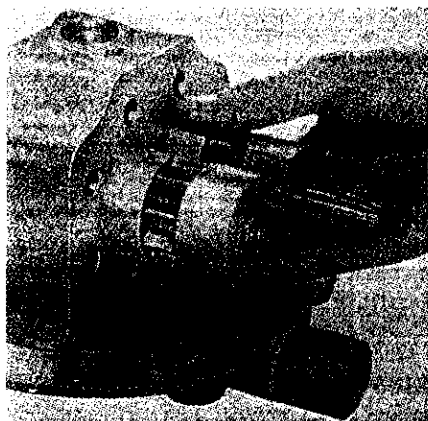

Fig. 421—Removing pump gears and bearings as an assembly.
(small) pump body (18) from rear cover plate (7) and remove gear bearing (15), pump drive gear (16) and driven gear (17). Remove the rear pump drive connector (6) and seal ring(s) (8 or 8A and 8B) from rear cover and separate rear cover and front cover (19) from pump body (1). Carefully remove the drive gear (4), driven gear (3) and bearings (2) from pump body as an assembly as shown in Fig. 421. Remove the seal rings (9—Fig. 420) from pump covers. Separate the gear bearings and pump gears.